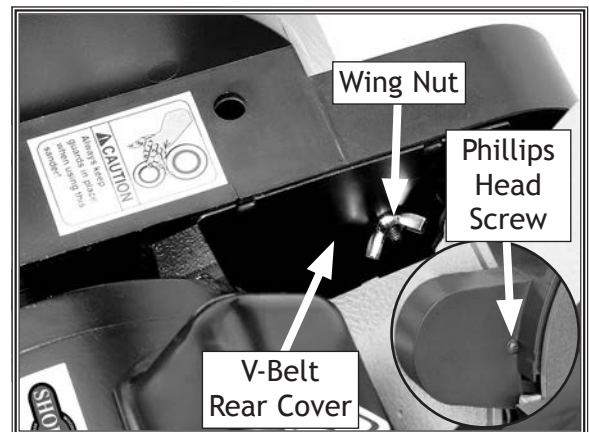

Figure 13. V-belt rear cover installed (inset shows front location of Phillips head screw).
- Install V-belt rear cover and secure it in place with (1) M4-.7 x 40 Phillips head screw and (1) M4-.7 wing nut, as shown in **Figure 13**.